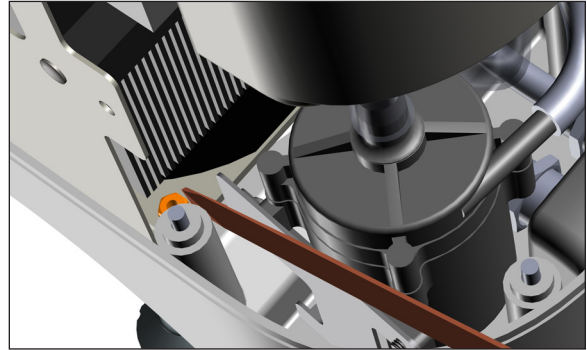

Figure 151 - Step 5 Hold Keys nut #4
5. Hold it in place in the same manner as screw #3, and thread the screw into the nut (Figure 151).